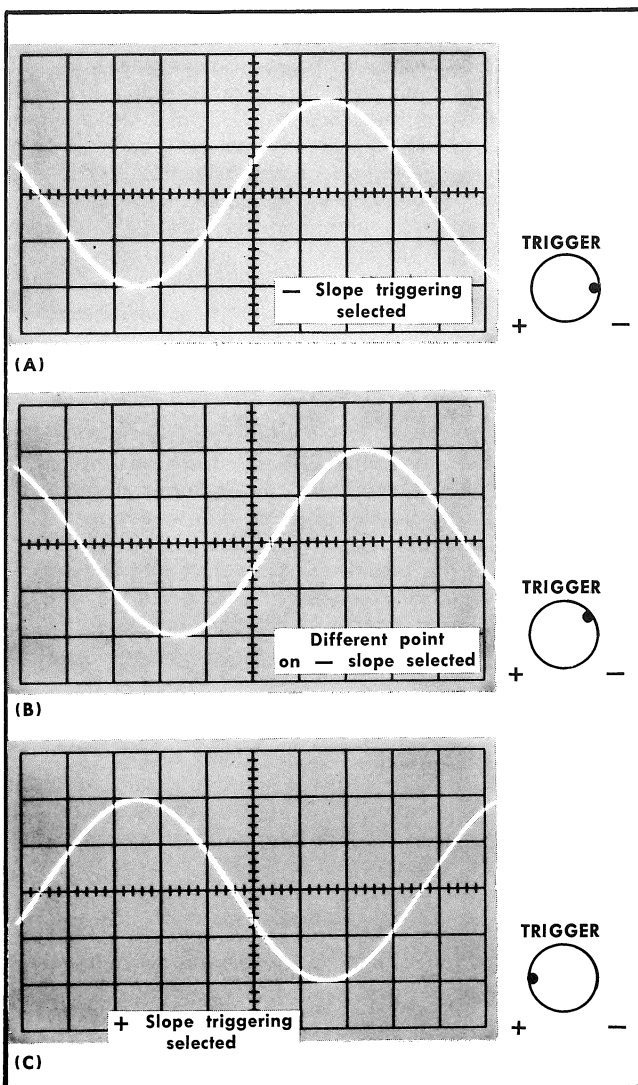

Fig. 2-7. Selection of triggering point.
22. Push the $\times 10$ VERT GAIN control in and set the VOLTS/DIV knob to .05. Connect the P6049 Probe to the VERT INPUT connector. Then connect the probe tip and ground lead across the output of a low-frequency sine wave generator. Set the generator for a 2-V peak-to-peak, 60 Hz output. Observe a sine wave which is 4 divisions peak-to-peak. Note that the beginning of the waveform has a negative (decreasing) slope. See Fig. 2-7(A).
the sweep is again triggered by the negative change in signal level. Continue the counterclockwise movement of the TRIGGER control and note that triggering occurs at progressively more positive points of the waveform. See Fig. 2-7(B). Continue the rotation through the control center position. The trace will disappear or become unstable, then reappear, being triggered by the positive change in signal level. See Fig. 2-7(C). Leave it in this position. (Either AUTO or manual trigger selection may be used in normal operation, as determined by the application and the operator's preference. It is suggested that AUTO be used in most applications, switching to manual when necessary to improve stability, increase the low-frequency triggering range, or to change the triggering point.)